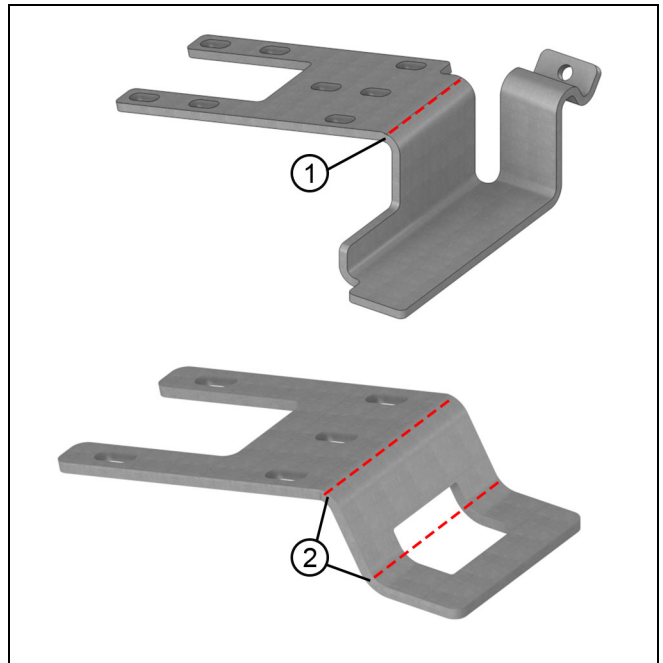

Figure 173
3. Any Non-rectangular Polygon with a rough opening less than 1/2" will likely require that you modify the bracket at the sloped head jamb to allow for clearance. Bend the brackets at the locations indicated in Figure 173 below.